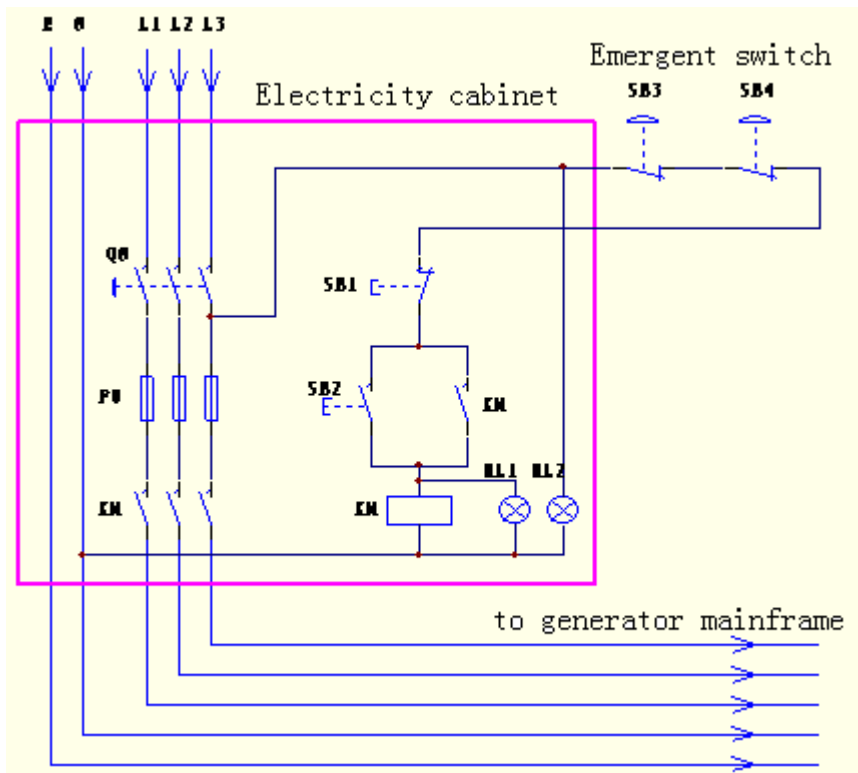

Figure 4-18 Arrangement diagram of X-ray room power
1. Before power cable connection, user shall properly prepare electrical cabinet as indicated in figure 4-18 or electrical cabinet with equivalent function and emergency switch. Power cable shall be high quality multi-strand copper core insulation cable. When the three-phase-four-line power cable is used, protective earthing cable shall be yellow-green double color insulation high quality copper core multi-strand cable with cross section not less than 10mm².